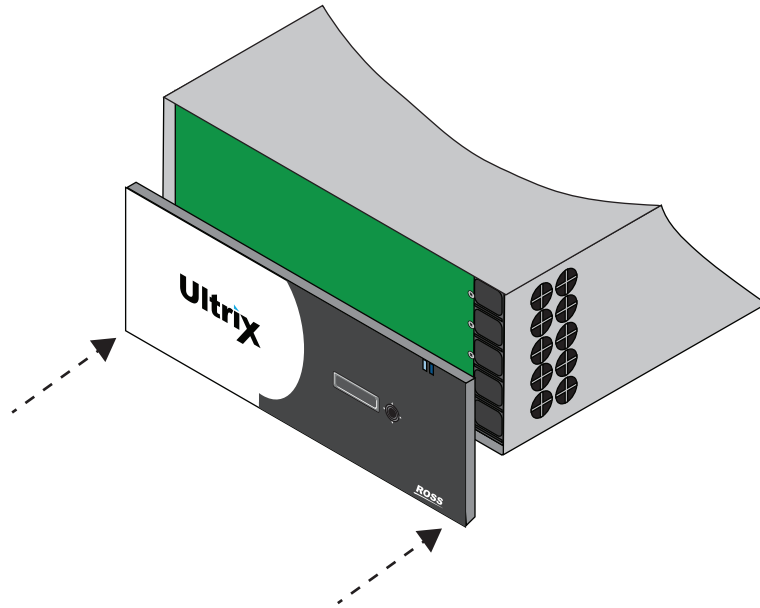

Figure 81 ULTRIX(-NS)-FR5 — Aligning the Door to the Chassis
- the corner with the Ross logo is in your right hand. (Figure 81)